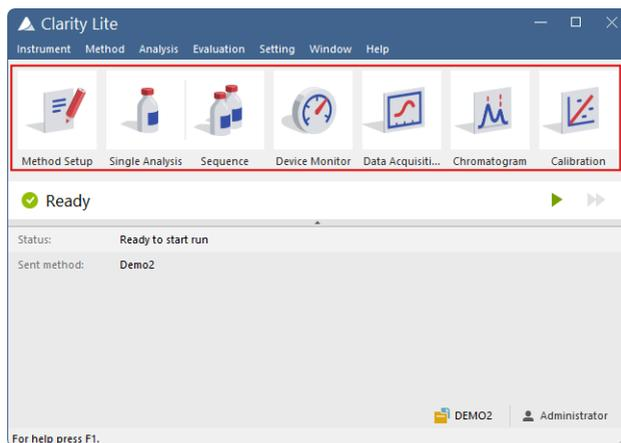

Fig. 8: Clarity Lite window
**Fig. 8** on pg. **11**. shows the most important icons in the *Clarity Lite* window. During the tour, we will review all windows belonging to these icons.
- In the **Clarity Lite** window look at the **Status line** (see Fig. 8 on pg. 11.). The acquisition is now signaled by the **RUNNING** state and the actual run time is shown there.
- To see the data acquisition in process and control it if necessary, click the **Data Acquisition**  icon (see Fig. 8 on pg. 11.) to open the **Data Acquisition** window.
- Depending on your Instrument's configuration, one or more signals may be displayed. The number of detectors (signals) and their names can be seen in the upper right corner of the graph (8).